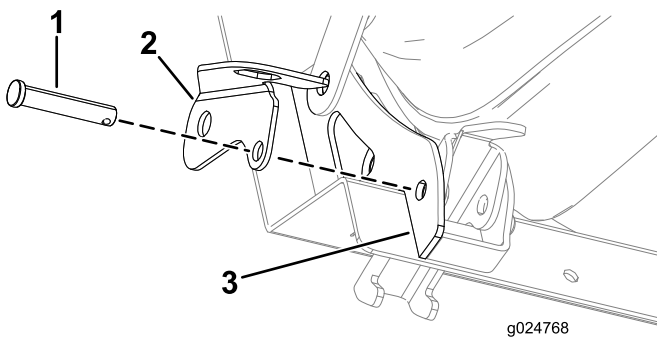

Figure 56
3. Partially insert the clevis pin through the lock bracket (Figure 56).
4. Align the lock bracket and the clevis pin through the hole of the outboard-seat gusset (Figure 56).